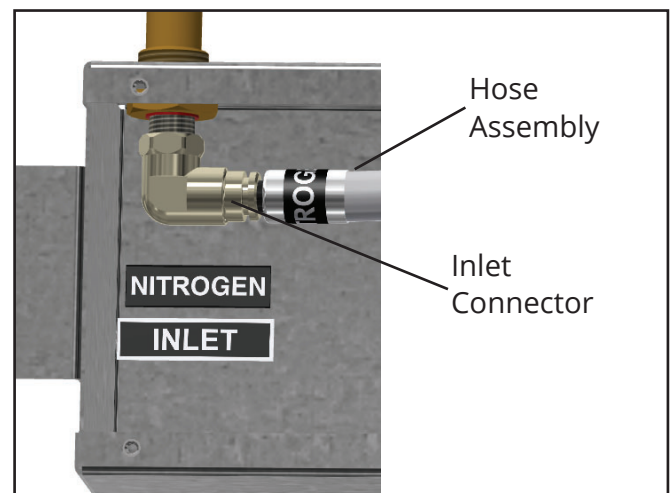

Figure 7
6. Insert hose assembly end into left inlet connector inside mounting box. Push hose adapter through collet into connector until it bottoms out. Pull back on hose assembly to verify proper attachment. Using same installation procedure, connect other hose end to front panel's inlet connector (Figure 7).